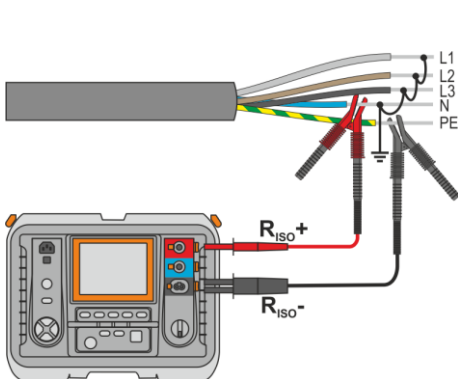

Fig. 4.1. Measurement of an unshielded cable
- In case of power cables measure the insulation resistance between each conductor and other conductors shorted and grounded (**Fig. 4.1** , **Fig. 4.2**). In shielded cables, the shield is also shorted.